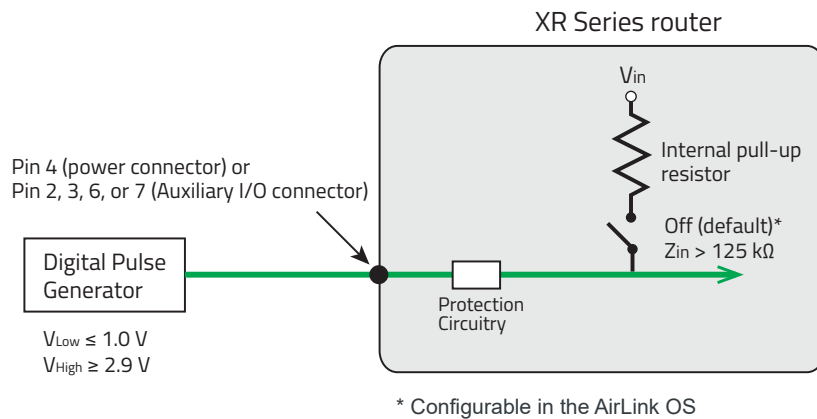

Figure 2-17: Digital Input / Pulse Counter
- Pulse counters—See Figure 2-17 on page 33.